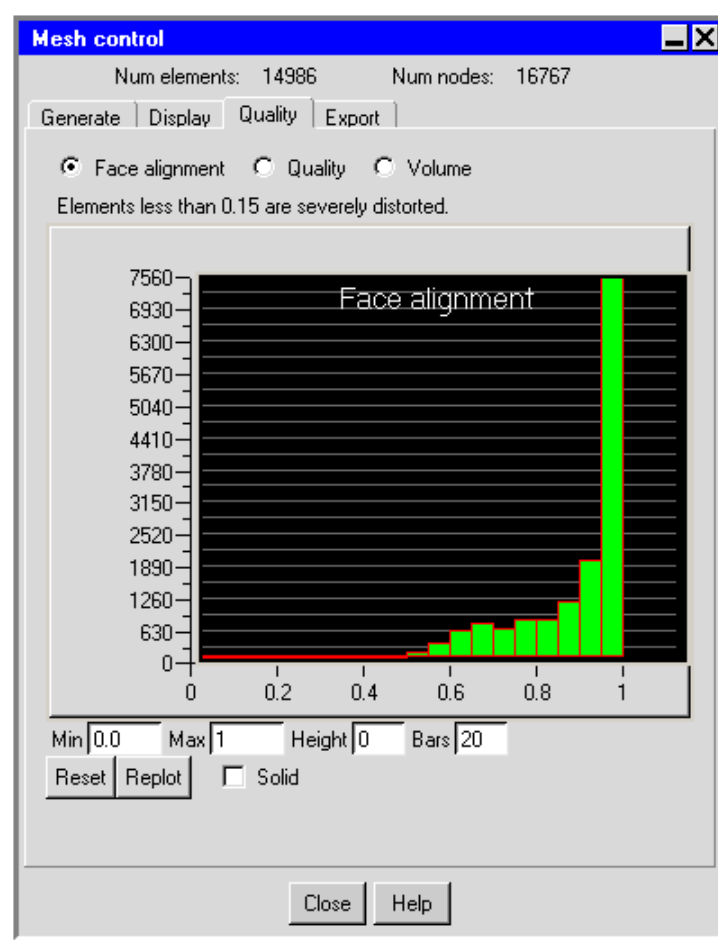

Figure 26.10.3: The Face alignment Histogram in the Mesh control Panel
3. Select the **Face alignment** option. **Airpak** will show a histogram of the face alignment, as shown in Figure 26.10.3.